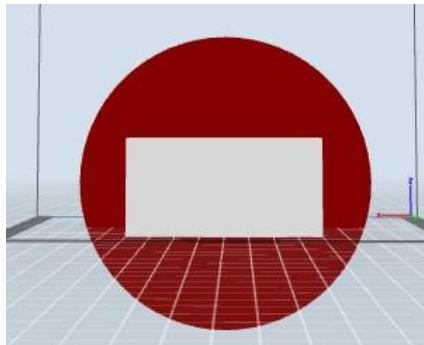

Figure 7 Y plane cutting interface
③ **Y Plane**:As shown in Figure 7.